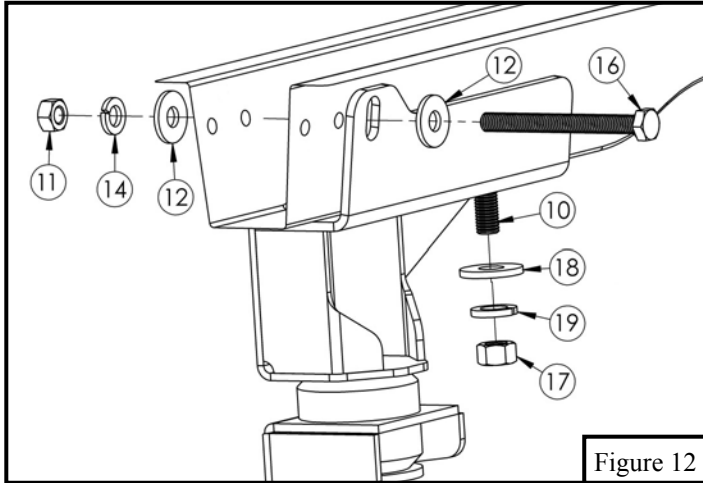

Figure 12
10. Using (1) long M10 hex head cap screw, (1) M10 lock washer, (2) M10 flat washers and the provided M12 hardware loosely secure the top bed mount bracket and its assembly onto the frame channel. **See Figure 12.**